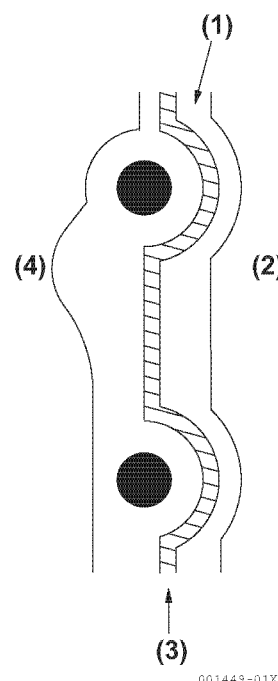

Figure 5-1
- If a gasket is used, do not use sealant TB1212 (Figure 5-1).